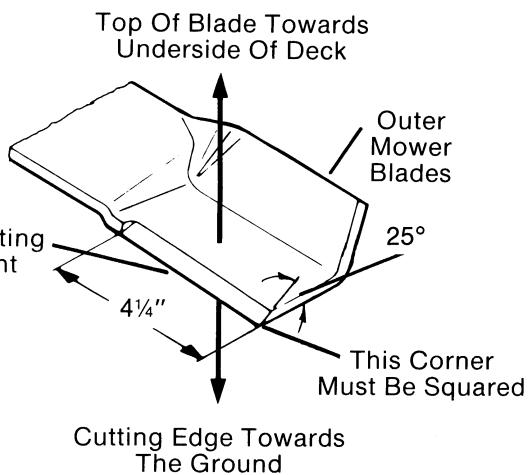

FIG. 13
- B. Sharpen beveled edges of the blade, reference (Fig. 13) for correct dimensions and instructions.